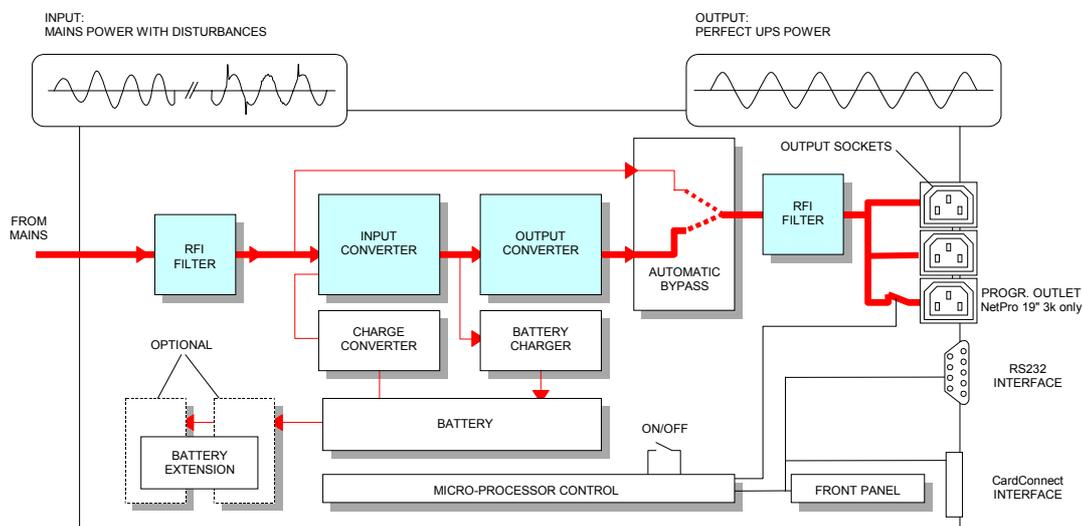

Figure 1 Block diagram of the **NetPro 19"** UPS, mains present
The **NetPro 19"** UPS stores electric energy in batteries housed in the unit. This allows the UPS to supply output power even when the incoming mains power is cut off completely. Energy is stored as Direct Current (DC), while input and output energy are Alternating Current (AC) in sine wave form. Therefore the UPS contains an input converter (AC to DC) and an output converter (DC to AC) (See fig.1).